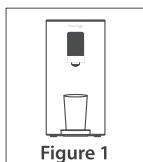

Figure 1
**Step 1:** Place a glass or cup on the drip tray (**Figure 1**).